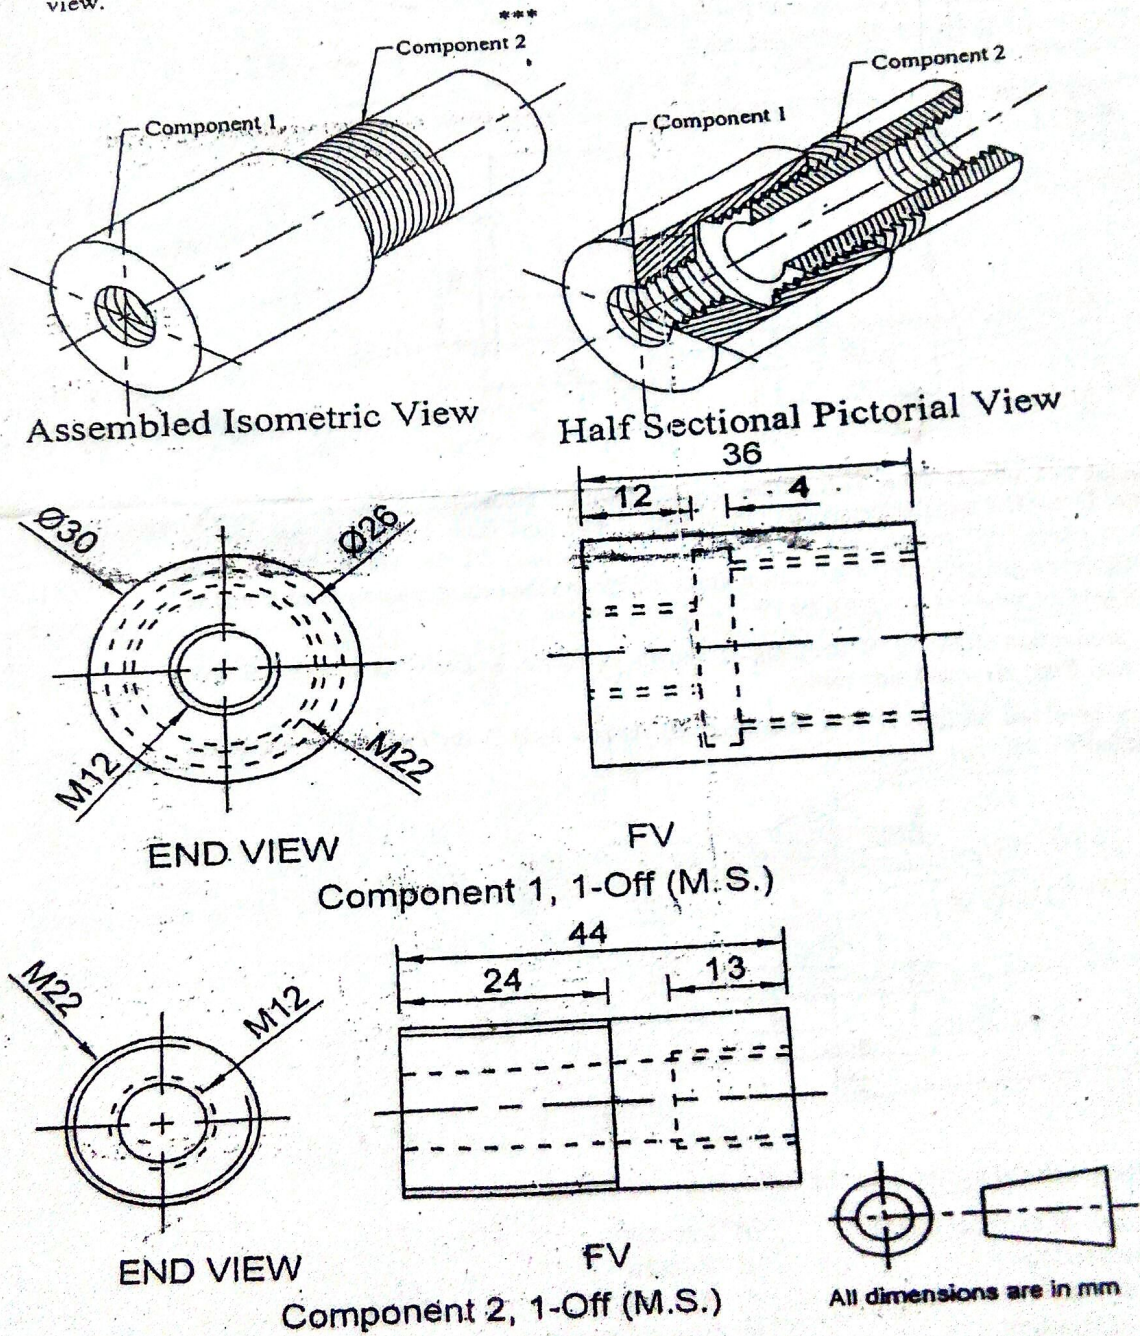
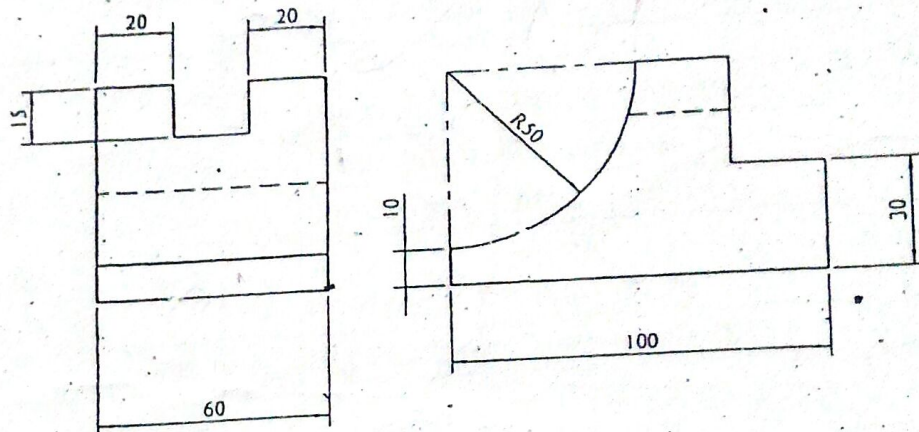

Figure 3
Figure 1
- Orthographic views of an object are shown in Figure 1. Draw its isometric view. [10]
- A solid cube having 50mm sides, is resting with its flat base on the ground plane. Draw its angular perspective view with its vertical faces equally inclined to the picture plane (PP) and the nearest vertical edge is touching the PP. The station point is 80mm above ground level, 40mm away from the PP and the central plane passes from the centre of the solid cube. [5]
- The production drawing of coupling is shown in figure 3. Draw its assembled half sectional front view and the side (or end) view. [15]